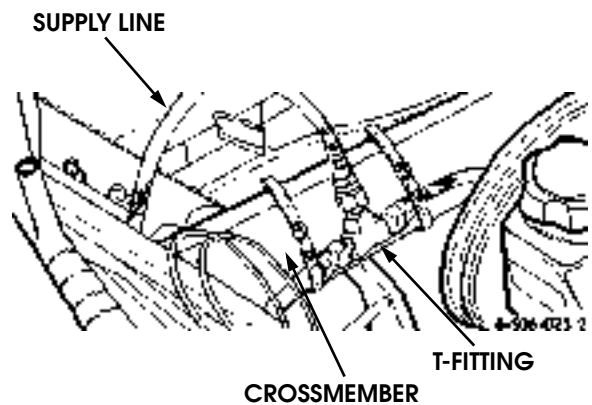

Figure 6-68: Supply Hose Connection
2. Disconnect supply hose at T-fitting secured to front frame crossmember (Figure 6-68).